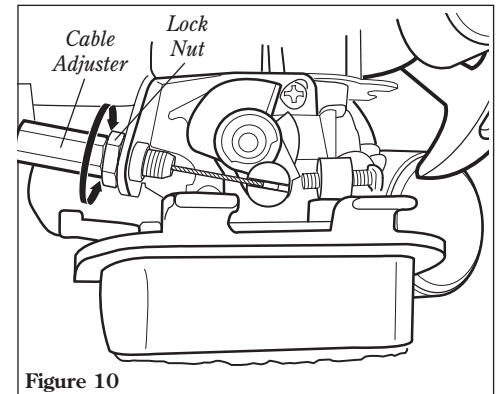

Figure 10
2. Loosen the lock nut on the cable adjuster. See Figure 10.
3. Turn the cable adjuster in or out as required to obtain proper free play 3/16-1/4 inch (4-6 mm). See Figure 10.